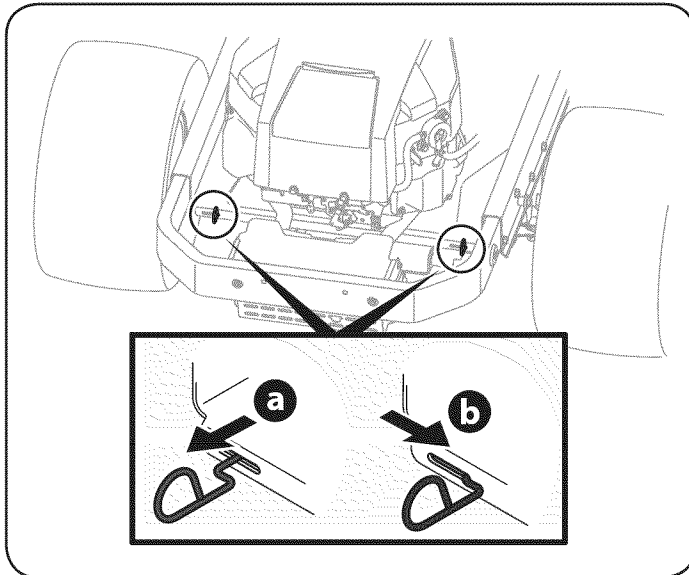

Figure 25
1. Locate the hydrostatic bypass rod in the rear of the riding mower. See Figure 25.
2. Engage the bypass rods by pulling each one out (a) and to the right (b) to lock it into place. See Figure 25.
3. Disengage the bypass rods by reversing steps a & b after moving the tractor. See Figure 25.